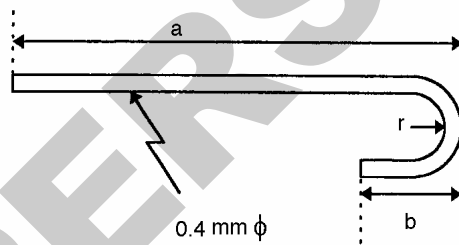

Figure 2
2.2.2 A pull-up hook should be suitable for each leadframe type. Example of the pull-up hook, for a typical 40 pins DIP leadframe, is shown in Figure 2.